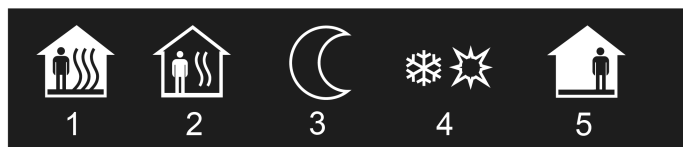

Figure 45: Status icons for the operating mode switchover
A symbol (C) can optionally be displayed in the lower display area. A parameter in the ETS defines whether the status icon in the display element is used. The displayed icon of the operating mode switchover is determined by the current operating mode of the integrated room temperature controller (figure 45). Consequently, the icon changes the display status whenever a change-over to a different operating mode takes place. The status value and icon can be omitted optionally.